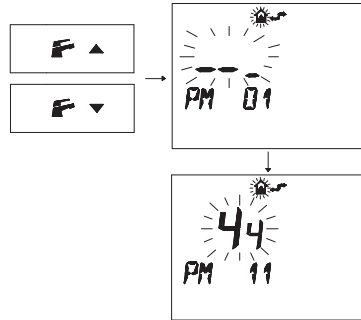

Fig. 7.34
- Press buttons **F** or **F** to display the “PM11” program of the pump post-circulation (Fig. 7.34).